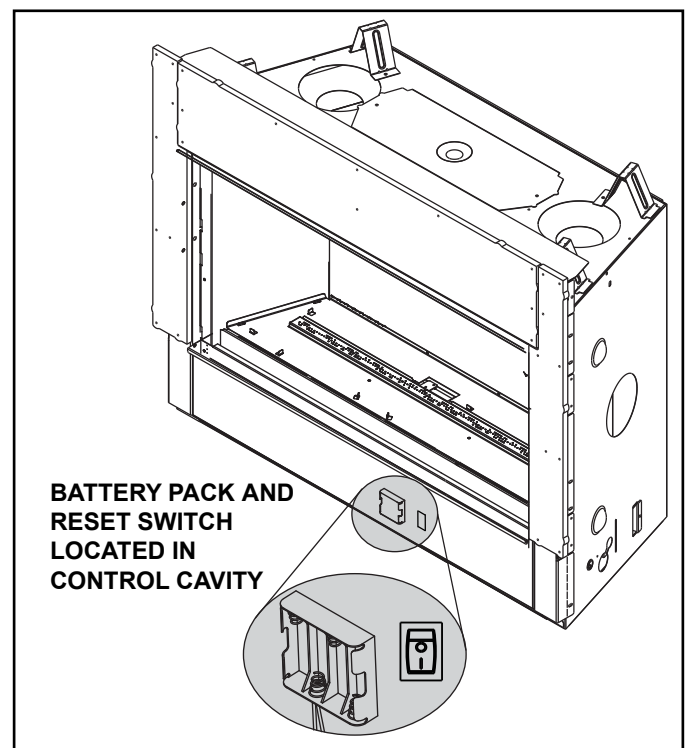
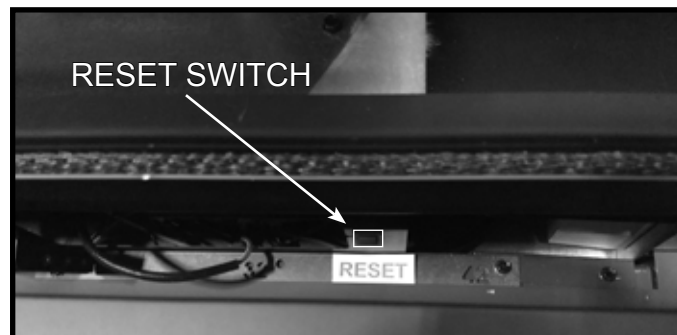

Figure 3.8 Battery Pack Location/Control Cavity
Figure 3.10 Reset Switch Location
The IntelliFire® Touch intermittent pilot ignition system comes with a battery backup system that enables the system to operate in a power outage. The system offers seamless transition from household AC power to battery backup. A factory-installed battery pack is located in the control cavity of the appliance. See Figure 3.8. Battery longevity and performance will be affected by long term exposure to the service temperatures of this appliance.
1. The battery pack is located in the control cavity of the appliance. To access the control cavity of the appliance Remove the decorative barrier front and glass assembly. See Section 4 for instructions on glass assembly removal. See Figure 3.8 for location of battery pack.
2. Locate the battery pack and remove it from the control cavity. It is held in place by hook and loop fastener. Insert four AA cell batteries. Battery polarity must be correct or module damage will occur. See Figure 3.8. A complete wiring diagram is included in the Electrical section of the appliance Installation Manual.
The appliance has a reset switch located inside the control cavity. See Figure 3.8 and Figure 3.10 for approximate location.
- Locate reset switch inside the appliance. See Figure 3.10. Switch is located above the “RESET” label. Hold reset switch down for one second and release. A “beep” will signal module is reset.